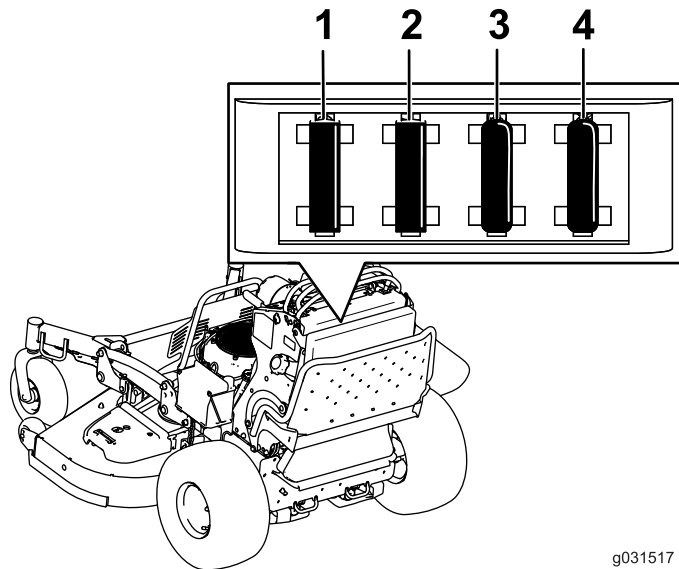

Figure 52
2. Pull out the fuse to remove or replace it (Figure 52).
Note: Ensure that the correct-size fuse is installed Figure 52.